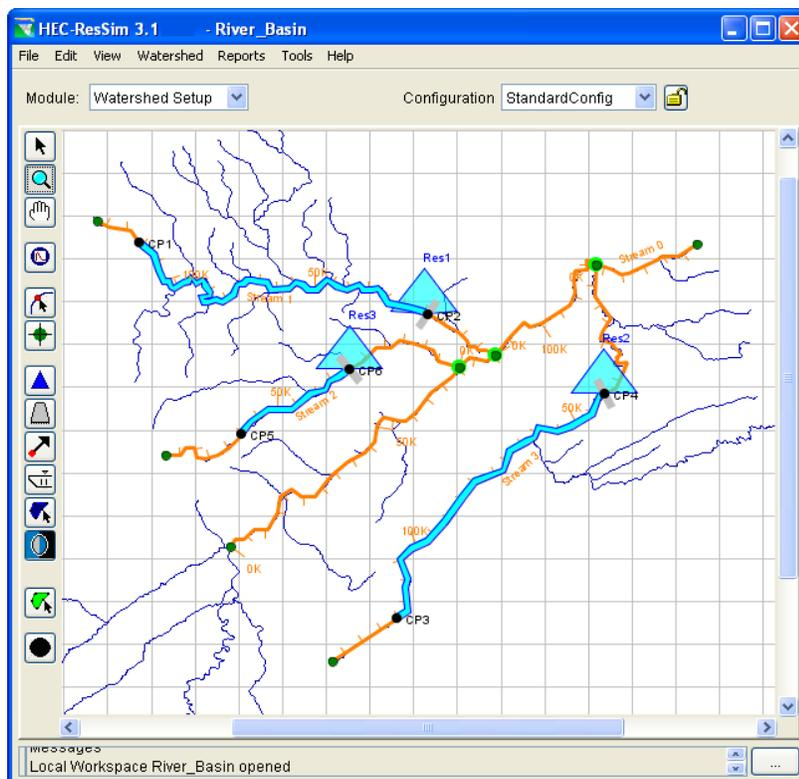

Figure 13. A Simple Configuration, StandardConfig
- **Save the Configuration.** When you are finished adding elements to the Configuration, be sure to save it and turn off editing. Select **Save Configuration** from the **Watershed** menu to save, then “unlock” the Configuration lock (yellow lock button) to toggle off the editability of the Configuration. A fairly simple Configuration (named StandardConfig) is shown in Figure 13.